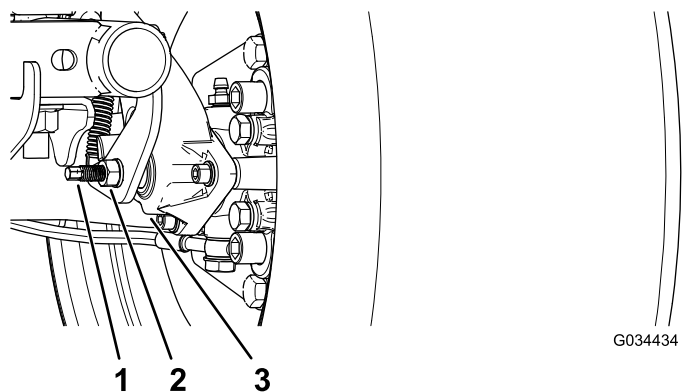

Figure 59
3. Using 2 wrenches, hold the adjusting post on the caliper in place with 1 wrench, and loosen the jam nut 1/4 turn with the other wrench (Figure 59).
4. While holding the adjusting post and the jam nut in place, turn the adjusting post in to tighten (Figure 59).
5. While holding the adjusting post and the jam nut in place, back off 1/4 turn (Figure 59).
6. While holding the adjusting post and the jam nut in place, tighten the jam nut (Figure 59).